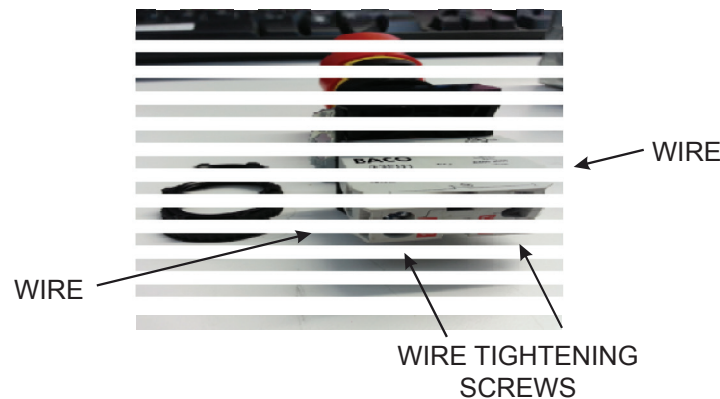

Figure 6 – Electrical Connections to Switch Block
There are two (2) wire landing locations on the switch block as shown on Figure 6. Insert the two wires in the slots and secure them by tightening their respective screws located at the back of the switch block.